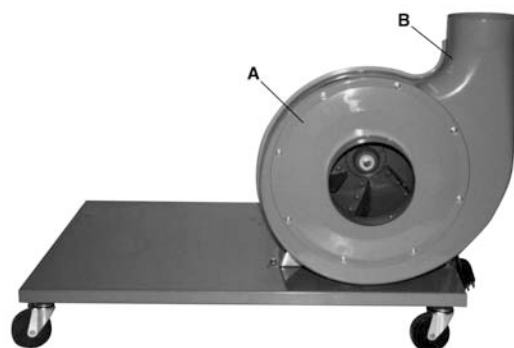

FIGURE 7
3. Attach inlet cover (A) Fig.7 to fan housing (B) using 8 pan hd screws.